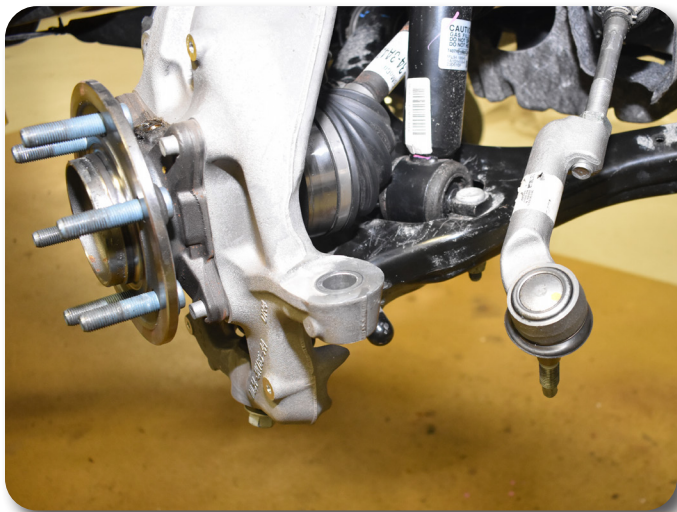

Figure 6
10. Remove the steering tie rod end nut from the tie rod end at the steering knuckle. Use an appropriate ball joint separator to dislodge the upper ball joint taper from the knuckle. Figure 6